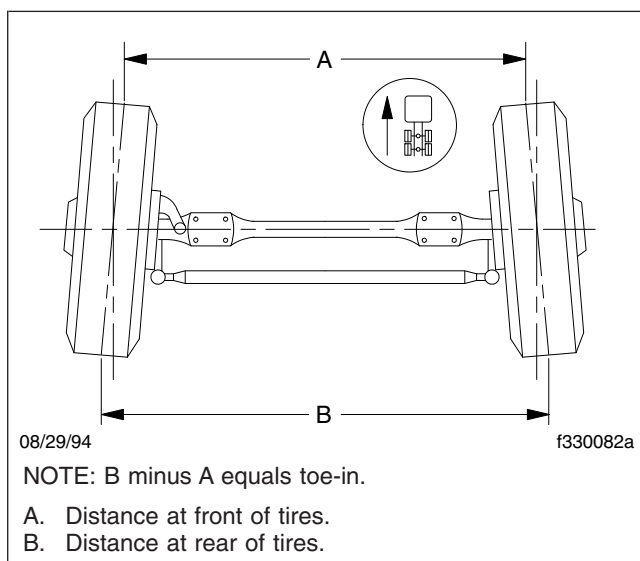

Fig. 12, Wheel Toe-In (overhead view)
6. Place a trammel bar at the **rear** of the front tires; locate the trammel pointers at spindle height, and adjust the pointers to line up with the scribe lines on the center ribs of the front tires. See Fig. 12. Lock the pointers in place. Check that the scale is set on zero.